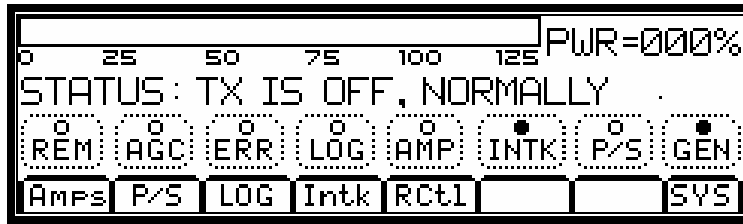

Figure 8 Main Menu
- On the LCD (see Main Menu display in Figure 8), the PWR should be at 000% and the STATUS should be TX IS OFF, NORMALLY.